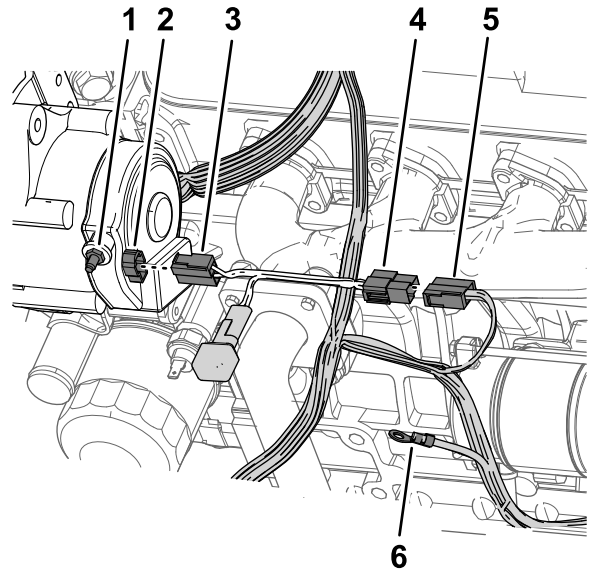

Figure 244
- Align the socket connector of the alternator adapter harness with the pins of the electrical connector on the alternator (60 A) and push the connectors together the lock on the connector snaps securely (Figure 244).
- Align the 2-blade connector of the alternator adapter harness with the 2-socket connector of the wire harness for the machine that you removed in step 2 of Removing the Alternator \(40 A\) \(page 107\) and push the connectors together until the lock on the connectors snaps securely (Figure 244).